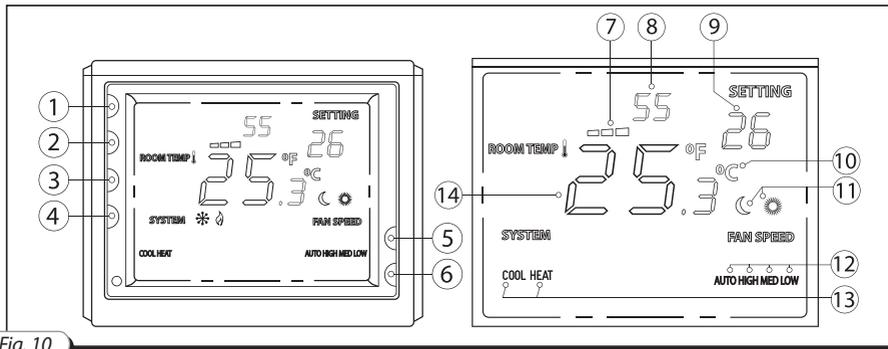

Fig. 10
The system is switched on or off using button (1), Fig. 10. The air flow rate (LOW, MED, HIGH or AUTO) is cycled by pressing button (3), see Fig. 10, while the current speed setting is shown on the remote control screen. The Day/Night mode is selected by pressing button (4). To switch the system from the «Day» mode to the «Night» mode press button (4) and hold it for 3 s. The selected mode is shown on the remote control screen (11). The supply air temperature can be set as desired using buttons (5) and (6) whereas the current temperature setting shows on the remote control screen (9). The «Heating» or «Cooling» modes are cycled by pressing button (2) as shown on the remote control screen (13).